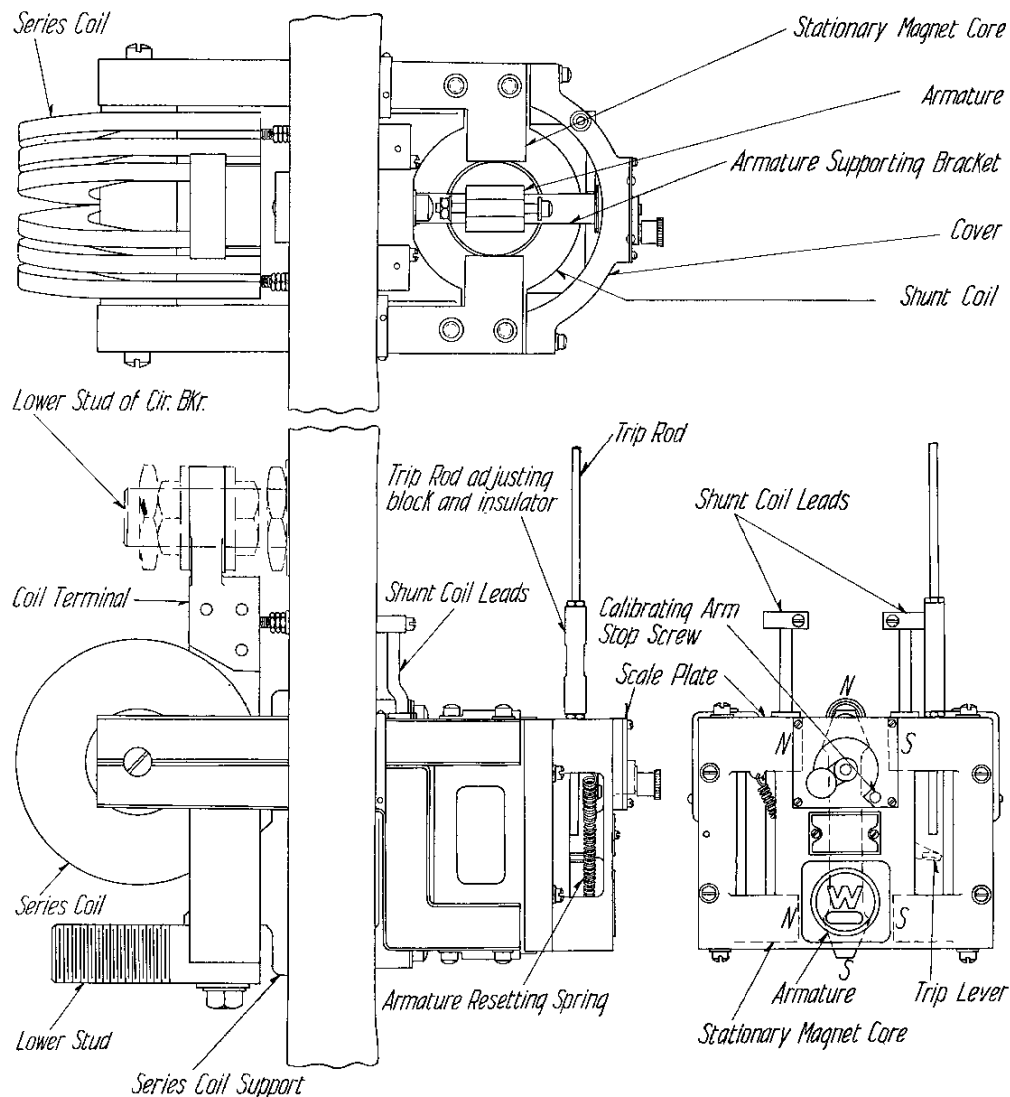

FIG. 13—REVERSE-CURRENT TRIP MECHANISM
**Reverse-Current Trip (Figure 13)—** This device is used to protect a circuit against reversal of power or reversal of current.